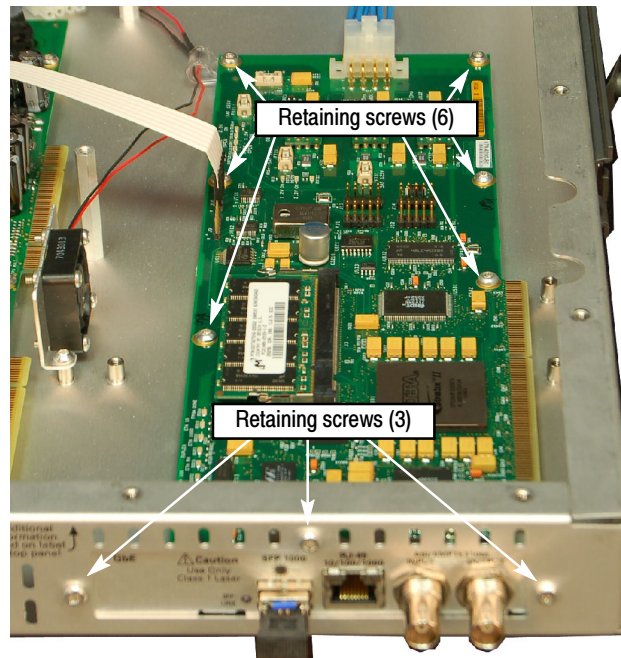

Figure 22: Retaining screw locations for GbE interface board
- c. For GbE interface boards, remove the six retaining screws from the board and remove the three retaining screws from the rear panel as shown in Figure 22.
- c. For GbE interface boards, install the six retaining screws in the board and install the three retaining screws in the rear panel as shown in Figure 22.